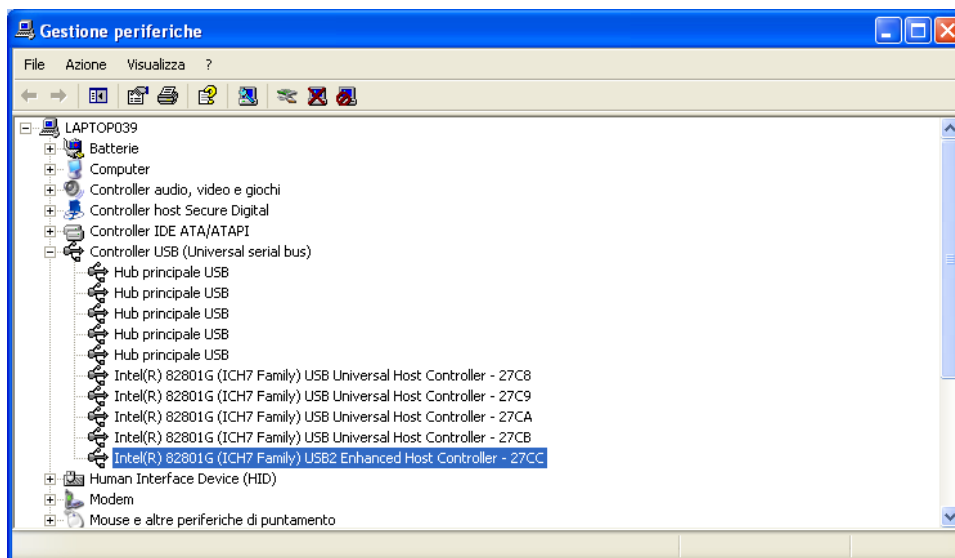

Figure 2: Device Manager controller USB.
- The computer must support USB 2.0 connection. In order to execute the check, verify the presence of the wording “USB2 EHC” or “USB2 Enhanced Host Controller” in the settings of the USB controller (START>CONTROL PANEL>SYSTEM select from hardware menu DEVICE MANAGER>CONTROLLER USB per WINDOWS® XP; START>CONTROL PANEL>SYSTEM>DEVICE MANAGER per WINDOWS® VISTA, WINDOWS® 7, or WINDOWS® 8) like figure 2.